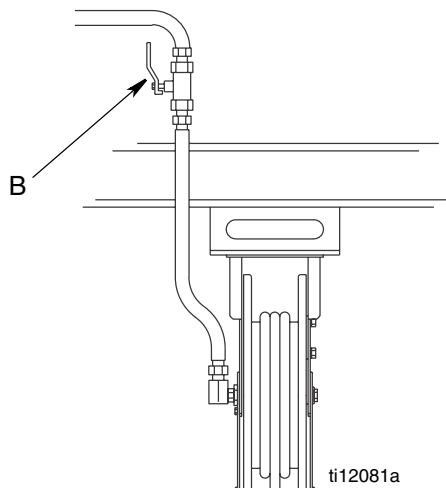

FIG. 4
5. Slowly open the shut-off valve (B, FIG. 4) at the dispense position. Flush out a sufficient amount of oil to ensure that the entire system is clean. Close the valve.